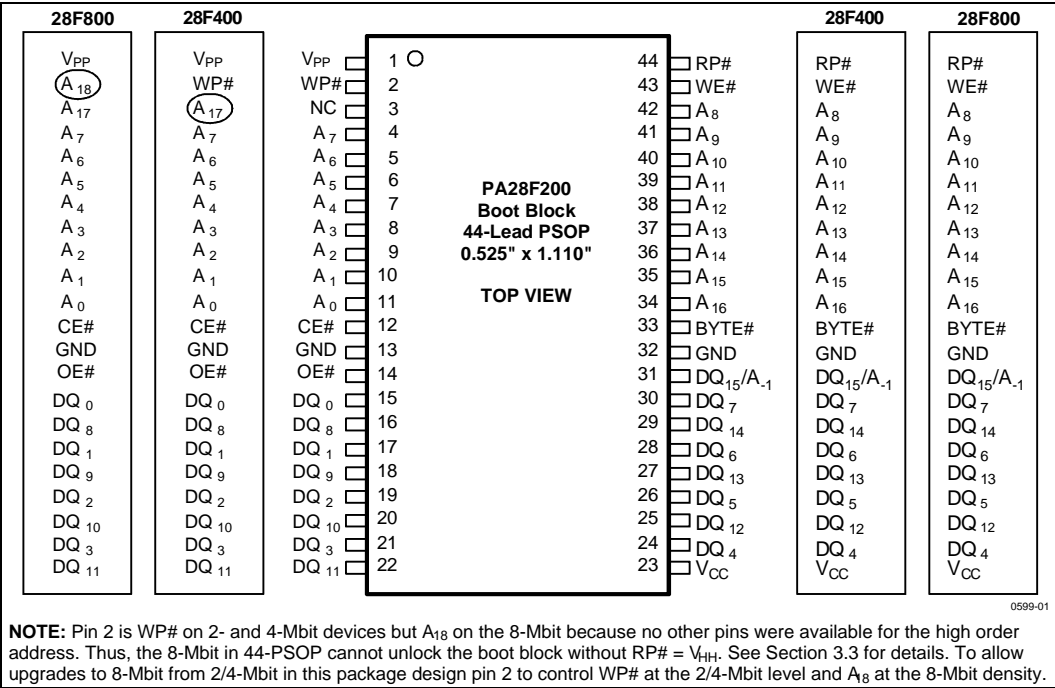
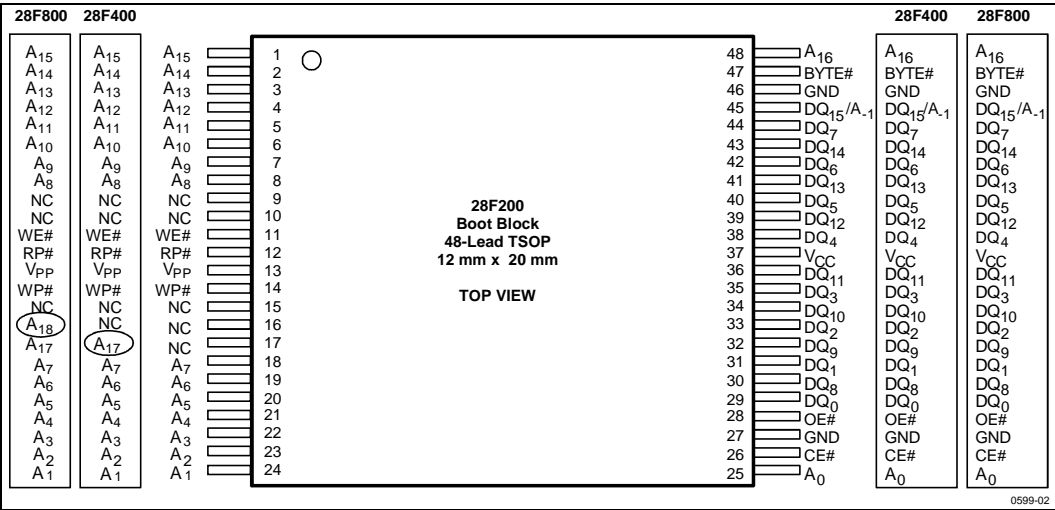

Figure 1. 44-Lead PSOP Pinout Diagram
Figure 2. 48-Lead TSOP Pinout Diagram
-002	Minor changes throughout document. Section 3.1.5 and Figure 14 redone to clarify program/erase operation abort. Information added to Table 2, Figure 1, and Section 3.3 to clarify WP# on 8-Mbit, 44-PSOP. Read and Write Waveforms changed to numbered format. Typical numbers removed from DC Characteristics and Erase/Program Timings.
-003	Minor text changes throughout document. Figure 1, 44-PSOP pinout: mistake on pin 3 on 2-Mbit pinout corrected from A 17 to NC. Specs t EHQZ and t GHQZ improved. Explanations of program/erase abort commands reworked in Table 6, Command Codes.
These Smart 5 memory products are available in the 44-lead PSOP (Plastic Small Outline Package), which is ROM/EPROM-compatible, and the 48-lead TSOP (Thin Small Outline Package, 1.2 mm thick) as shown in Figure 1, and 2, respectively.
Intel's Smart 5 boot block architecture provides upgrade paths in each package pinout up to the 8-Mbit density. The 44-lead PSOP pinout follows the industry-standard ROM/EPROM pinout, as shown in Figure 1. Designs with space concerns should consider the 48-lead pinout shown in Figure 2. Applications using an 8-bit bus can use the 40-lead TSOP, which is available for the 4-Mbit device only.